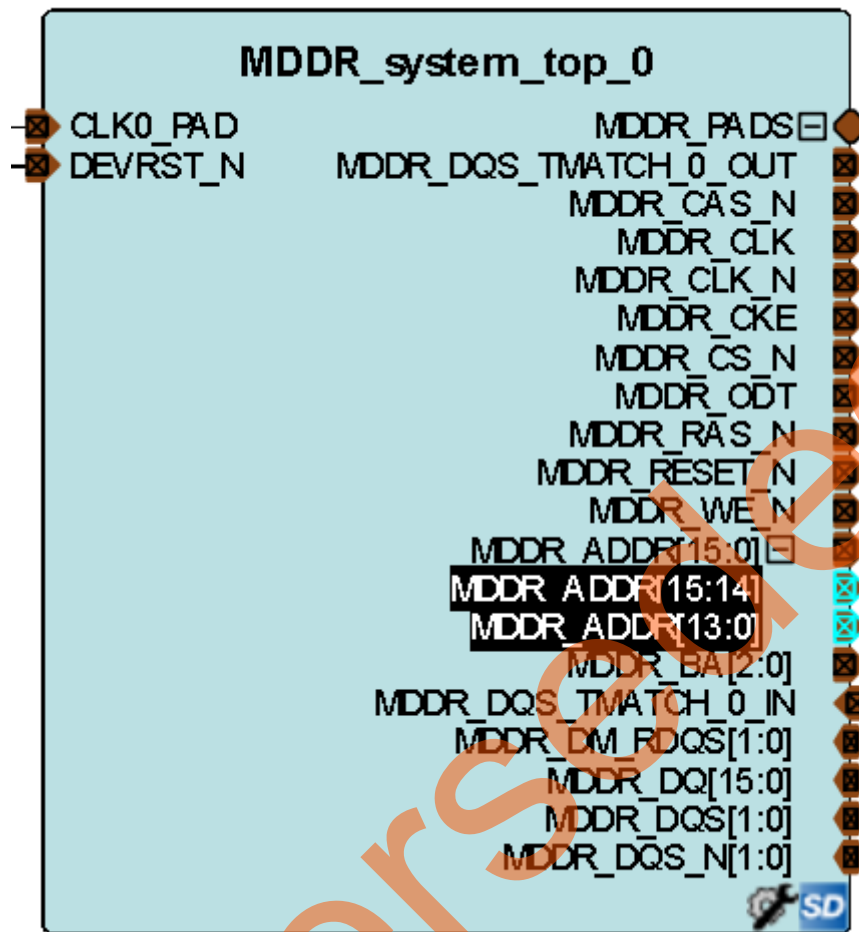

Figure 26. MDDR_ADDR Created Slices
- Click **OK**. This creates two slices of the MDDR_ADDR bus, as shown in Figure 26.